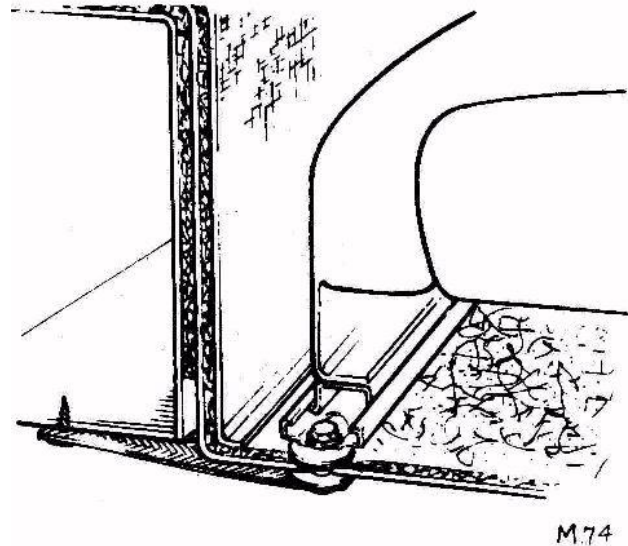

Fig. 7. SEAT EARTHING
- b. 15 cm (6 in.) braid from each forward inner seat mounting bolt to chassis (see Fig. 7.)